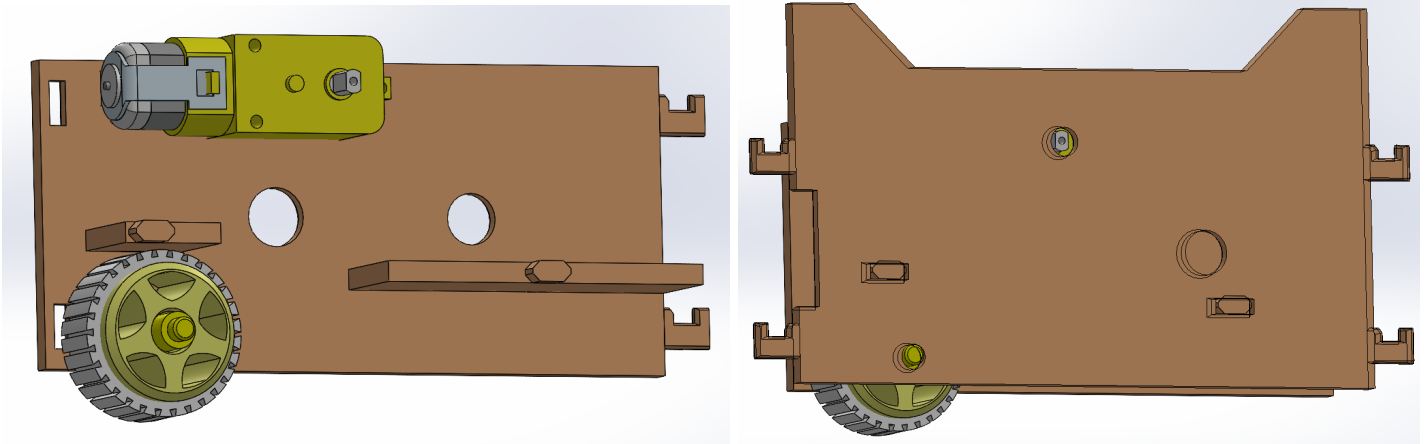

FIGURE 2
STEP 2: In this step we take the result part from **STEP 1** as well as the axis with the number 17 alongside the wall with the number 1, as well as the two spacers numbered 16 and 22, we also take the motor which is numbered 6, we place all of these pieces on the wall with the number 1 as seen in figure 2, we then close it off using the wall with the number 7.